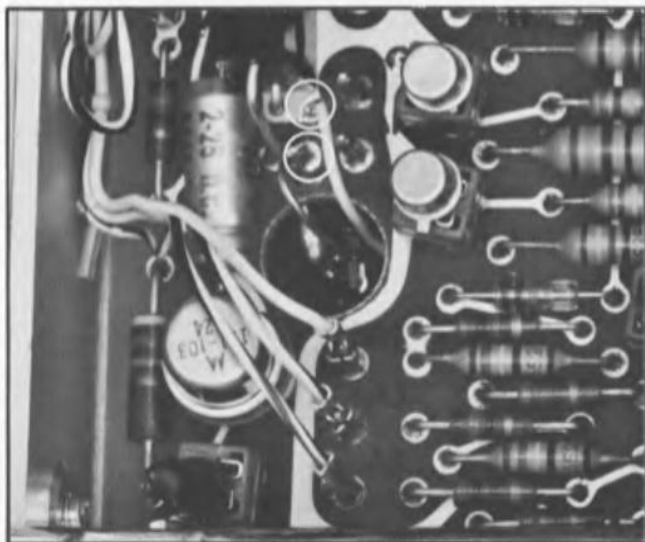

Fig. 4-6. Unsolder two leads of C422 when removing Vertical board.
2. Lift all wires from the connecting pins with the long-nose pliers. Pull on the pins, not the wires. Unsolder six leads: H, I, N, O, and the two leads of C422 shown in Fig. 4-6. (Place the removed delay line leads so they can be soldered again in correct order.)